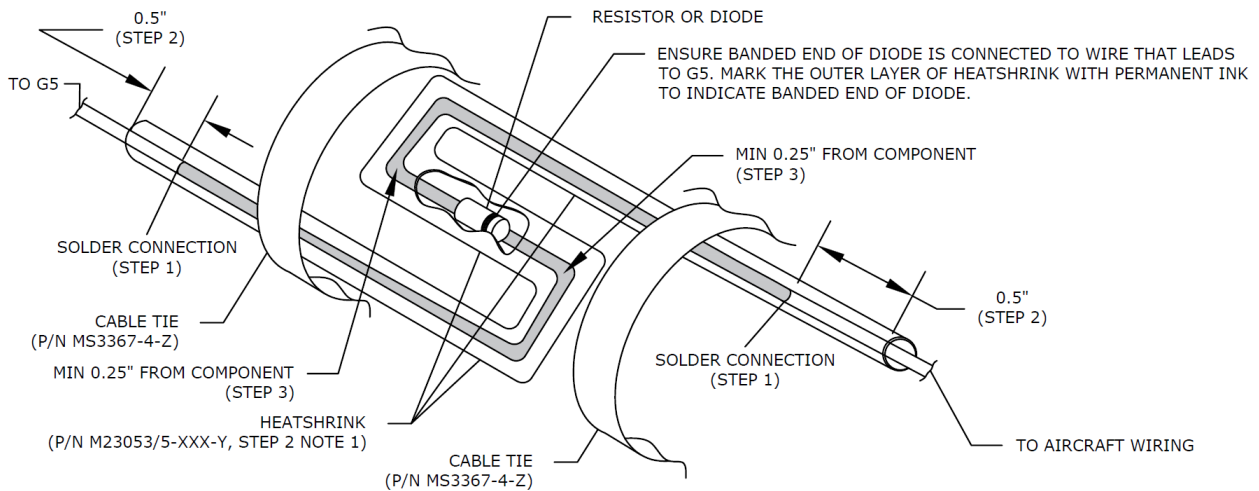
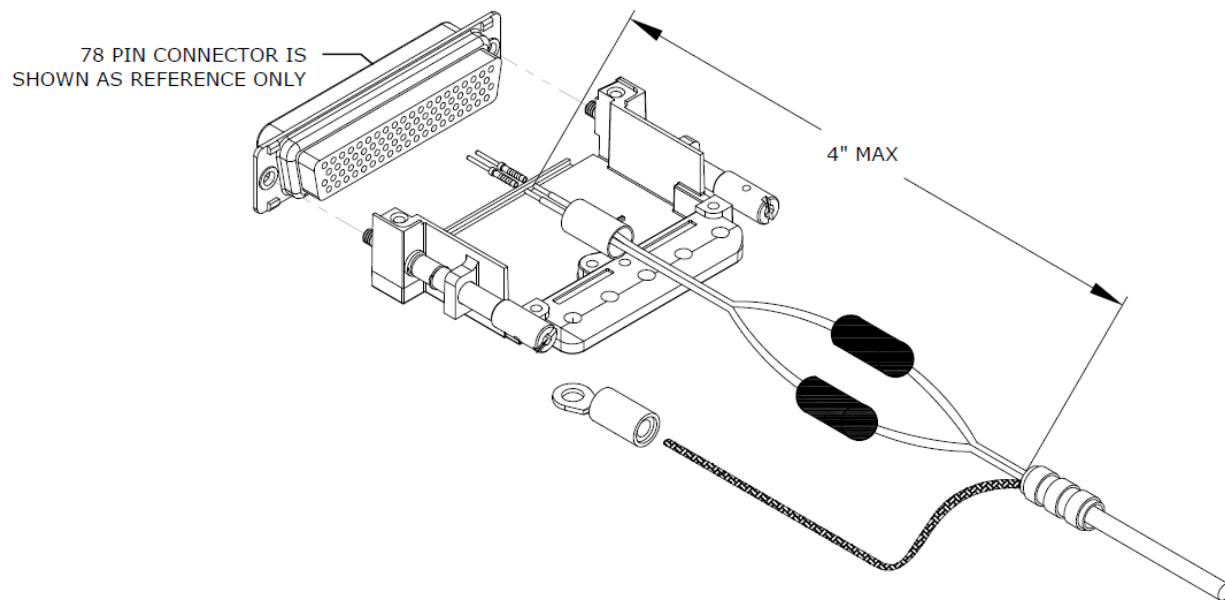
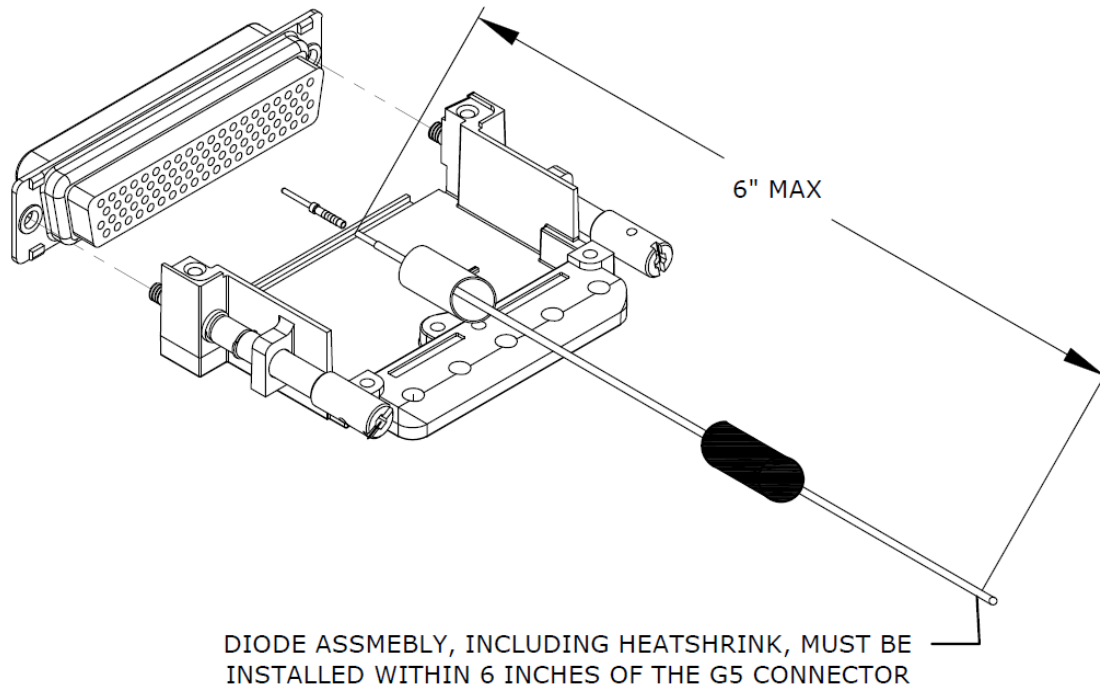

Figure 3-8 G5 Diode and Resistor Method A Buildup
Figure 3-9 Method A Placement of G5 CAN Bus Resistors
Figure 3-13 Placement of G5 Power Diode (Bothe Wire Types)
For installation of 15Ω resistors on 120Ω CAN cable see Figure 3-8 and Figure 3-9.
- Method A should be used for resistor installations utilizing 120Ω CAN cable and shielded twisted-pair cable MIL-C-27500 installations that do not use the G5 as a CAN bus terminator, see Figure 3-8 and Figure 3-9.
- Figure 3-8 and Figure 3-13 show the buildup and installation requirements for the G5 power diode. This does not depend upon what type of wire is used for the CAN bus.
Figure 3-8 shows the installation procedure for the resistors and diode into the wiring harness. For part numbers of resistors and diode, see Section 3.2.1. Figure 3-9 shows the placement requirements of the resistors on the CAN bus wiring. Figure 3-13 shows the placement requirements of the diode on the G5 power wire. See Section 5 for complete wiring interconnect details.
Figure 3-8 shows the installation procedure for the diode into the wiring harness. For part numbers of diode, see Section 3.2.1. Figure 3-13 shows the placement of the diode on each power input for the G5. See Section 5 for complete wiring interconnect details.